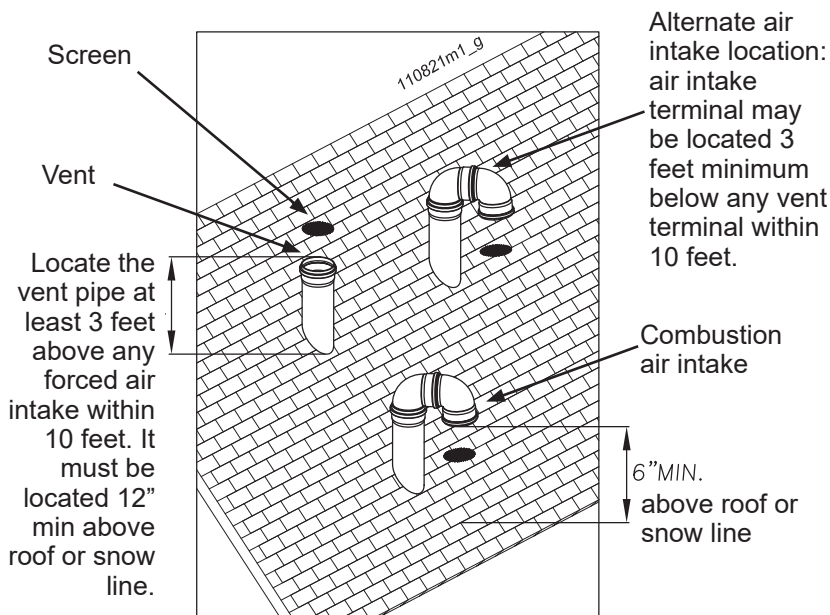

Figure 12-21 Two pipes vertical terminations of air and vent
3. Space the air and vent holes to provide the minimum spacing shown in Figure 12-21 and listed in Section 12.12.1.
1. Prepare the vent termination and the air termination elbow (Figure 12-21) by inserting bird screens.
2. The air piping must terminate in a down-turned 180° return bend as shown in Figure 12-21. Locate the vent pipe at least 3 feet above any forced air intake within 10 feet. This placement avoids recirculation of flue products into the combustion air stream.
3. Maintain the required dimensions of the finished termination piping as shown in Figure 12-21.
4. Do not extend exposed vent pipe outside of building more than shown in Figure 12-21. Condensate could freeze and block vent pipe.